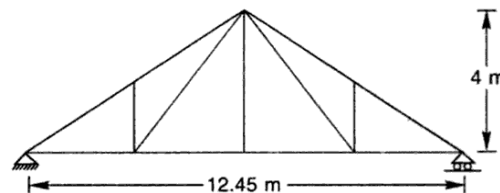

Figure 1
1. Design a steel roof truss shown in Figure 1 for a clear span of 12.0 m. the truss is supported over masonry columns 45 cm x 45 cm trusses are placed 3 m c/c and support galvanised iron sheet on rafters and steel purlins. The rise of the truss is 1/3 of span. The design wind pressure may be assumed to be  $1000\text{N/m}^2$  [12M]